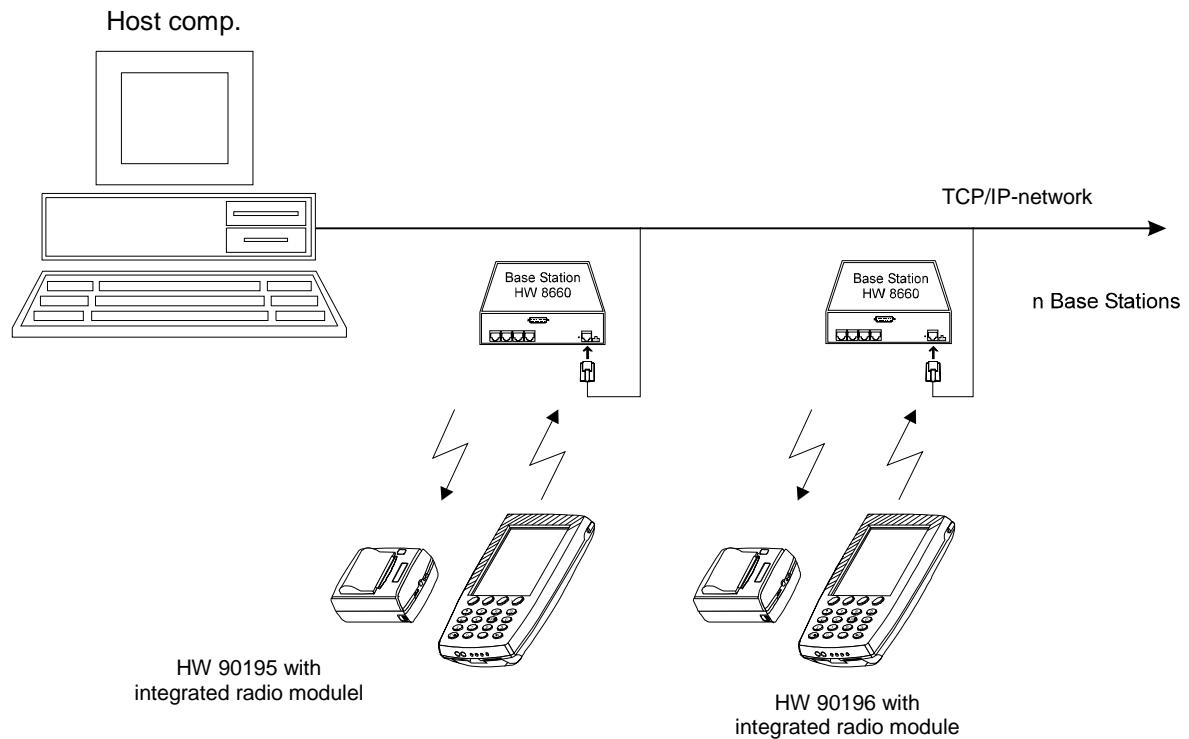

fig. 17: Radio transmission with HW 90195 / HW 90196
3. Push lid of casing ① (see fig. 17) to the back.